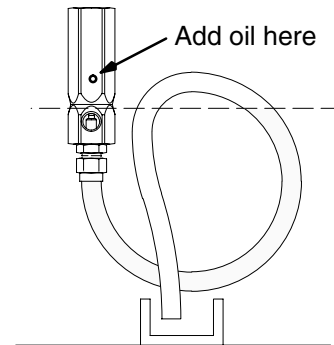

Fig. 1 04522
- For materials that cure when exposed to air, add a loop in the discharge line and fill with compatible oil to prevent the discharge line from plugging after relieving. See Fig. 1. Do not connect the discharge line to the supply container to prevent contamination from the oil. Also add compatible oil to cap through hole to prevent needle/seal from curing in case of fluid seepage.